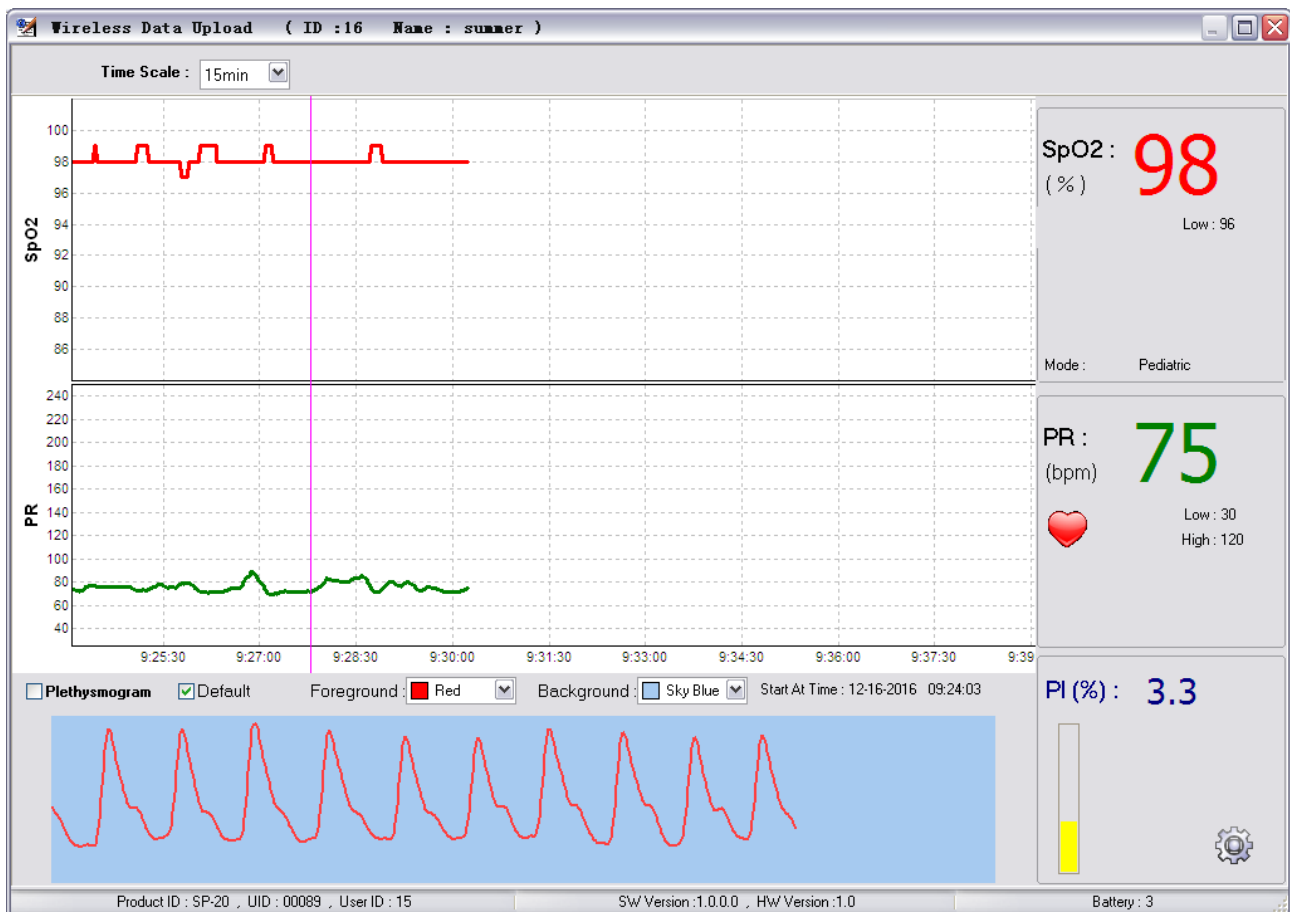
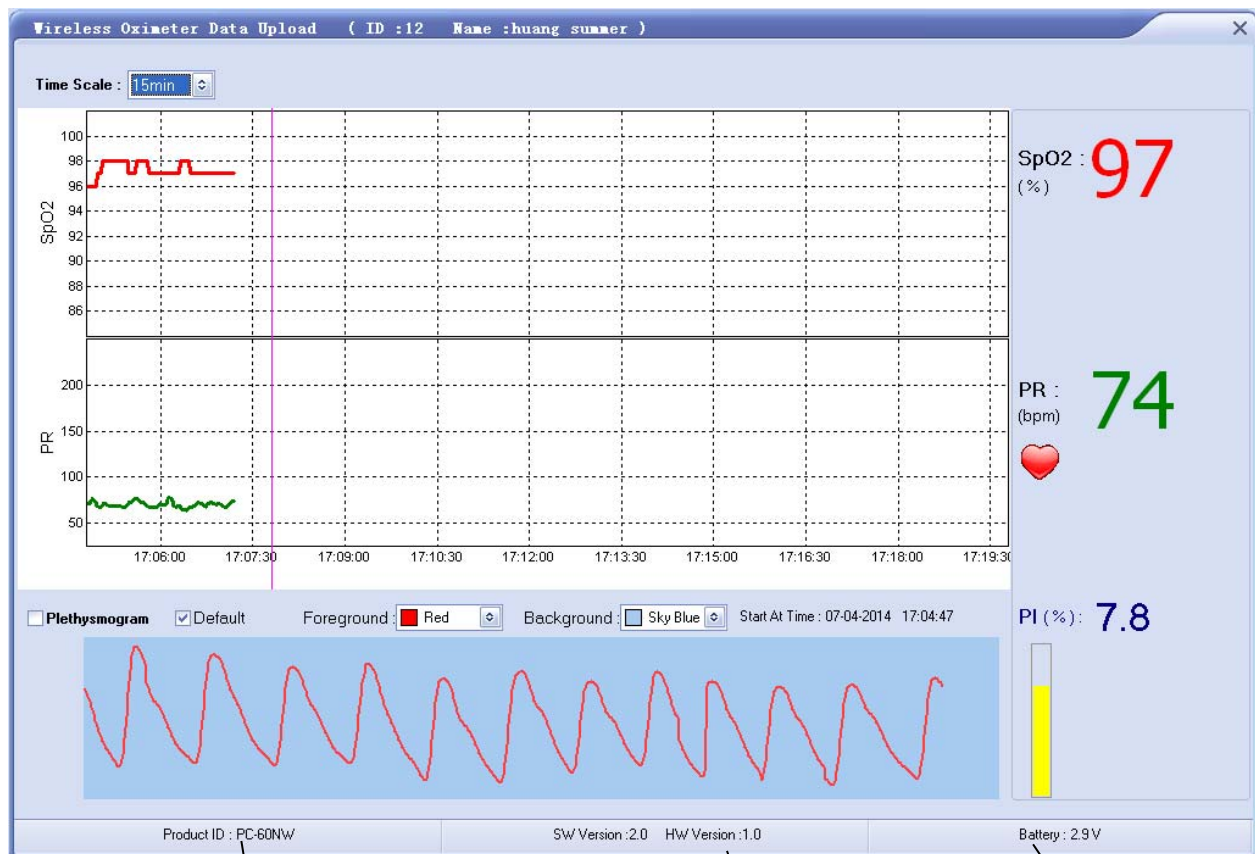

Figure 3-5A
Figure 3-5C
1) Select the patient account, click the “Receive”, button to activate the wireless data transmission, the screen displays the received data in real-time, as shown in the figure 3-5A, 3-5B and figure 3-5C (the display content depends on the Oximeter model you used).
In figure 3-5A and 3-5C, while receiving data by wireless transmission, the user can click the Close icon "X" on the upper right corner to terminate the wireless data transmission, and the received data will be saved automatically, which can be reviewed and analyzed in "Data Review".
In figure 3-5A, click set icon "⚙️", then the alert setting window pops up on the screen, as shown in figure 3-5D.